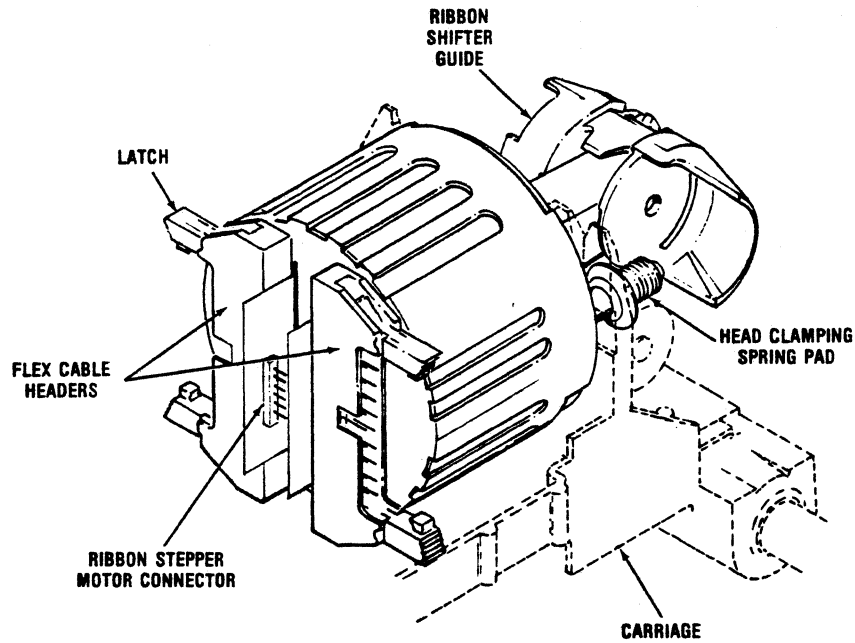

Figure 6-3 Print Head Replacement
7. Disconnect the ribbon stepper motor cable from the motor connector (see Figure 6-3).
8. Disengage latches at the top and bottom of the head flex cable headers (Figure 6-3).
11. To replace the print head, set the head over the carriage and push down until the head clamping pads lock in place in the carriage (see Figure 6-3).